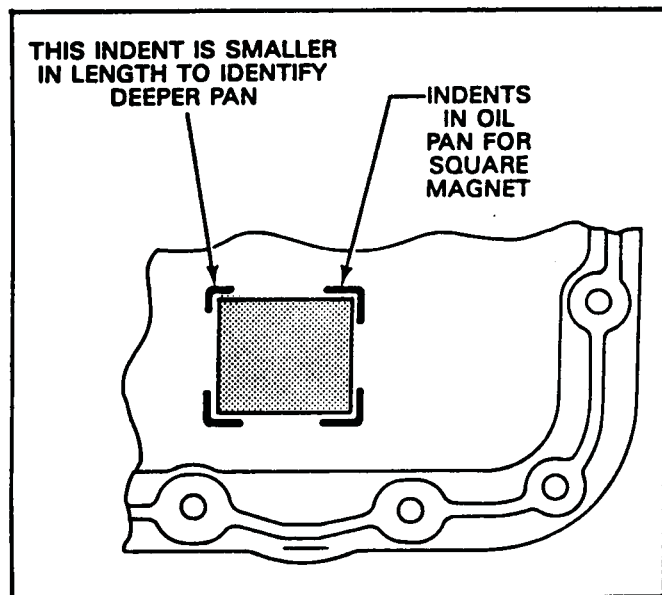

Figure 199
33. Install two (2) "O" rings onto the filter neck, lubricate with Trans-Jel, and install filter into the pump bore.
35. Install magnet into the oil pan in the location shown in Figure 199.